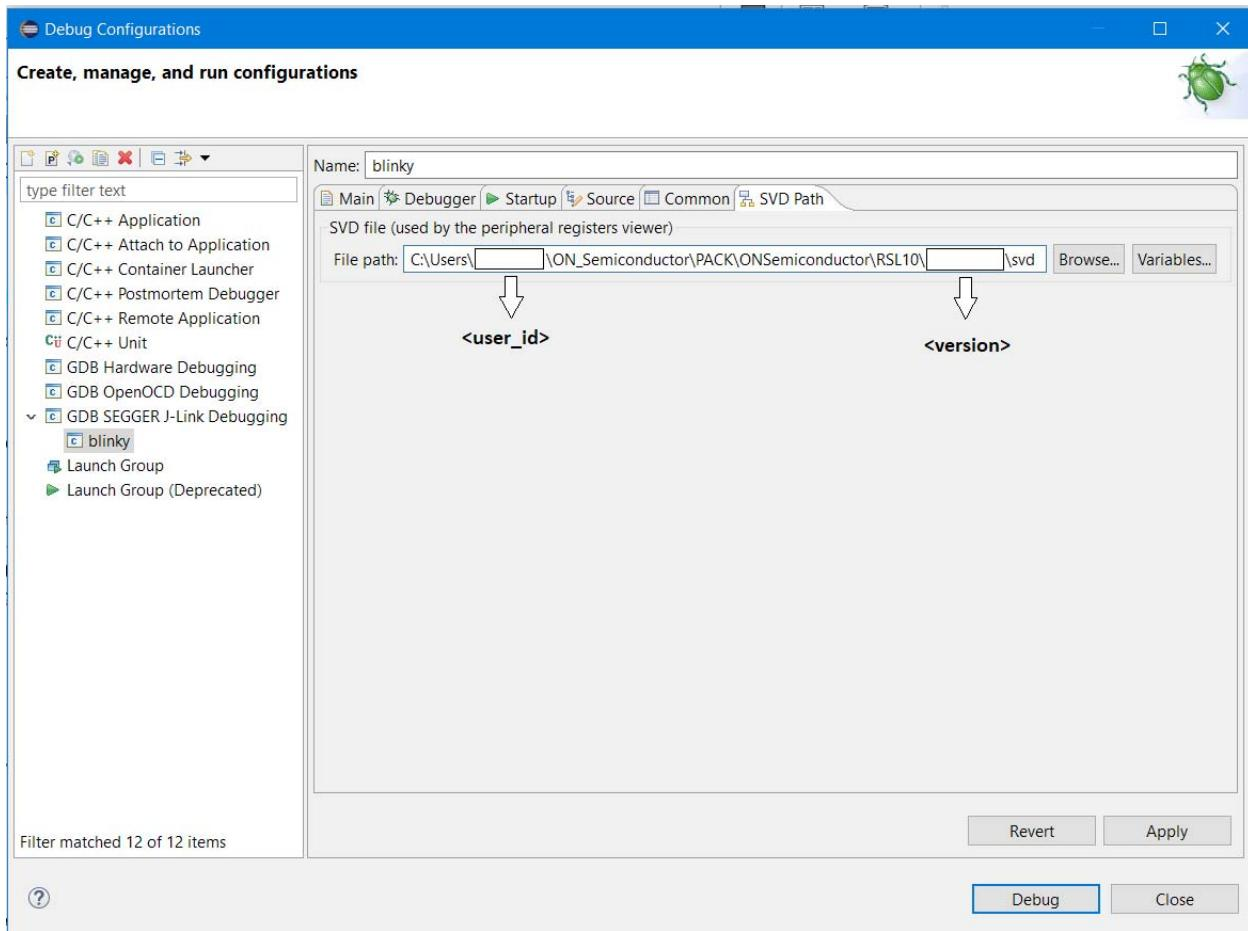

Figure 12. SVD Path Tab Perspective
2. Change to the **SVD Path** tab, and set the path to the *rsl10.svd* file as *C:\Users\<user_id>\ON_Semiconductor\PACK\ONSemiconductor\RSL10\<version>\svd* (see Figure 12). Click **Debug**.